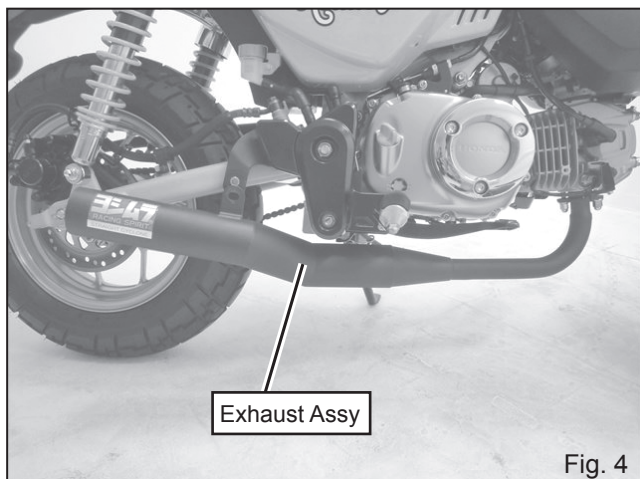

Fig. 4
- 5) Replace stock gasket at exhaust port of engine with new one. Then, mount Exhaust Assy at the exhaust port with stock nuts. Tighten nuts by hand only at this stage. (See Fig. 4 & 5)